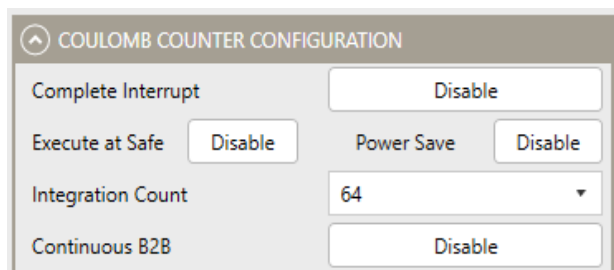

Figure 17: Coulomb Counting Configuration
9. Figure 17 shows the Coulomb Counter Configuration settings in the GUI.